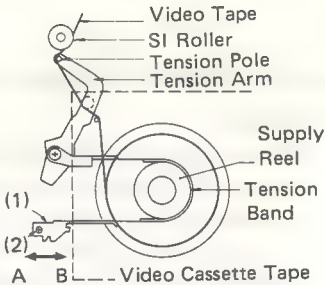

Figure 14
1. If the tension pole is less than 1.25 mm to the left of the center of the SI roller, move the tension band adjustment angle (1) in the direction of arrow B in figure 14 and tighten the screw (2).
2. If the tension pole is more than 1.75 mm to the left of the center of the SI roller, move the tension band adjustment angle (1) in the direction of arrow A in Figure 14 and tighten the screw (2).